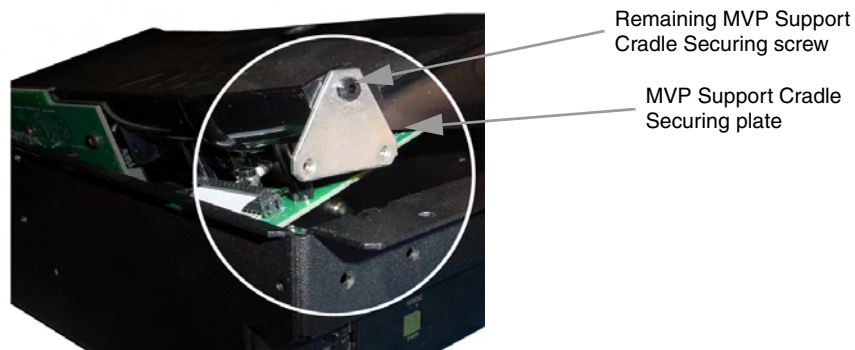

FIG. 23 Sliding out the battery cover/support cradle combo
5. Carefully slide the black pivot cradle combo unit (battery cover/support cradle) up from the metallic housing and use the screwdriver to remove the remaining screw from the securing plate (shown in FIG. 23).
5. Use the screwdriver to install one of the previously removed MVP Support Cradle Securing screws to the securing plate (shown in FIG. 23 on page 21).